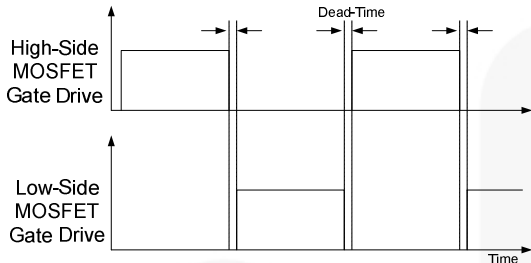

Figure 15. MOSFETs Gate Drive Signal
**1. Basic Operation.** FLS-XS series is designed to drive high-side and low-side MOSFETs complementarily with 50% duty cycle. A fixed dead time of 350ns is introduced between consecutive transitions, as shown in Figure 15.